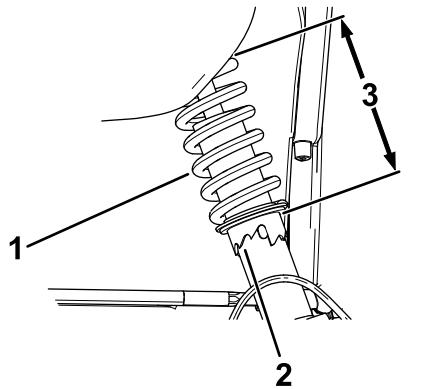

Figure 51
2. If the wheel camber is out of alignment, use the spanner wrench to rotate the collar on the shock absorber to align the wheel (Figure 51).